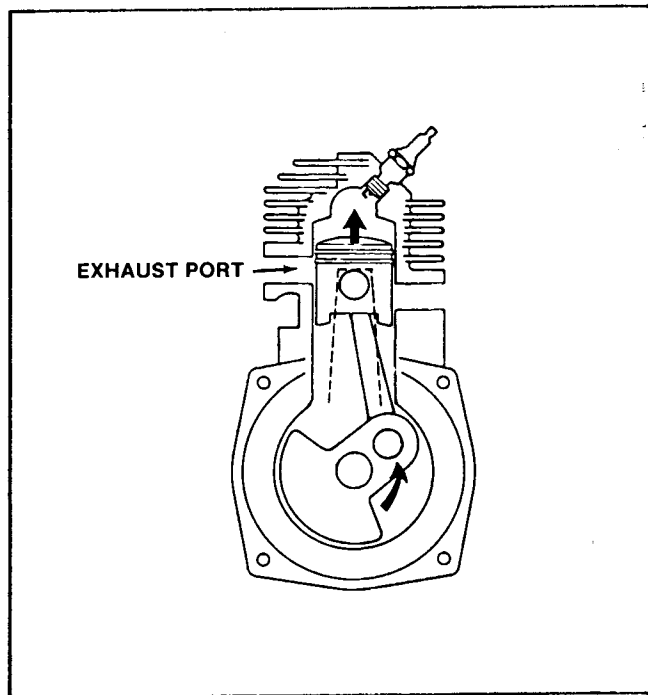

Figure 87
3. The piston covers the exhaust port which completely seals the combustion chamber. See Fig. 87.